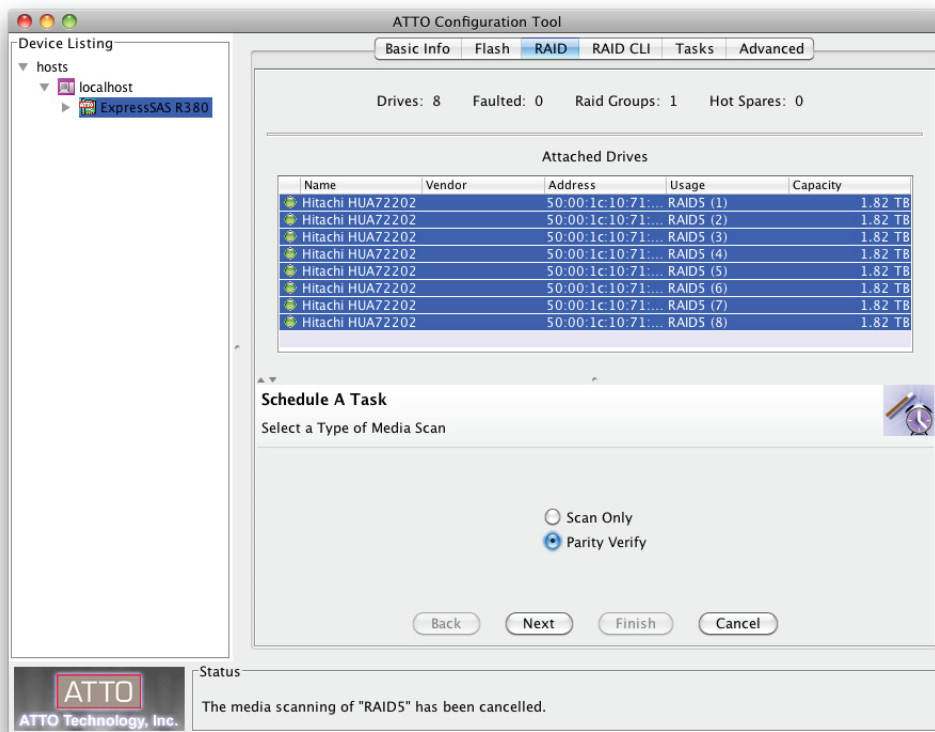

Figure 24
3. Select **Scan Only** or **Parity Verify**, and then click Next. See **Figure 24** on page 30.